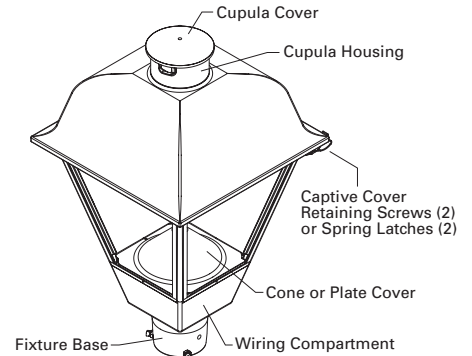

FIG. 1
1. Loosen the captive cover retaining screws or spring latches and open the hinged top cover of the fixture. **(FIG. 1)**
1. Lift off cupola roof. (FIG. 1)